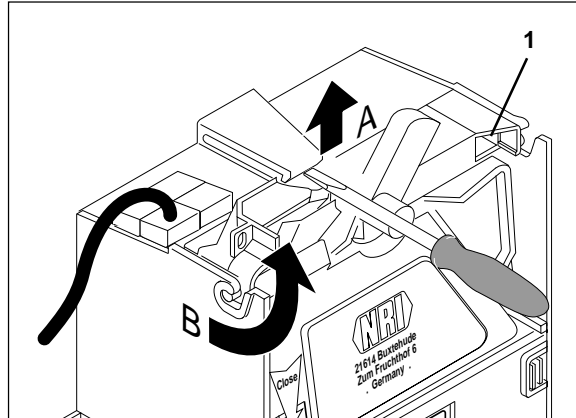

Fig. 7: Removing the coin validator
- Remove coin validator (fig. 7)
Connect the setting module to the socket (1) which is situated on the frontside of the changer at the top right (fig. 7).